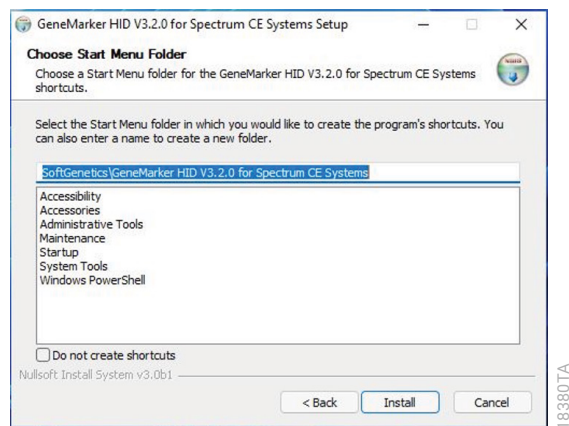

Figure 11. 'Choose Start Menu Folder' window.
7. Choose the Start Menu Folder for the software's shortcuts in the 'Choose Start Menu Folder' window (Figure 11), then select **Install**.